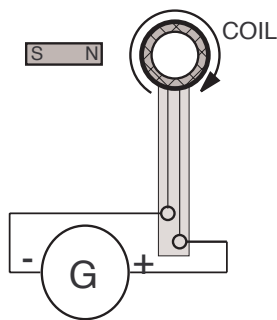

Figure 3
A. A permanent bar magnet with poles labeled N and S is provided, along with a galvanometer and two detector or pick-up coils on long handles. Begin with the detector coil consisting of 400 turns of copper wire mounted on the end of a plastic handle and two sockets for banana plug cables. Connect the detector coil and galvanometer in a simple circuit as shown in Figure 3. Pay careful attention to the legend on the detector coil showing the direction of winding of the wire in the coil (the direction shown in the figure may be different than your actual coil).